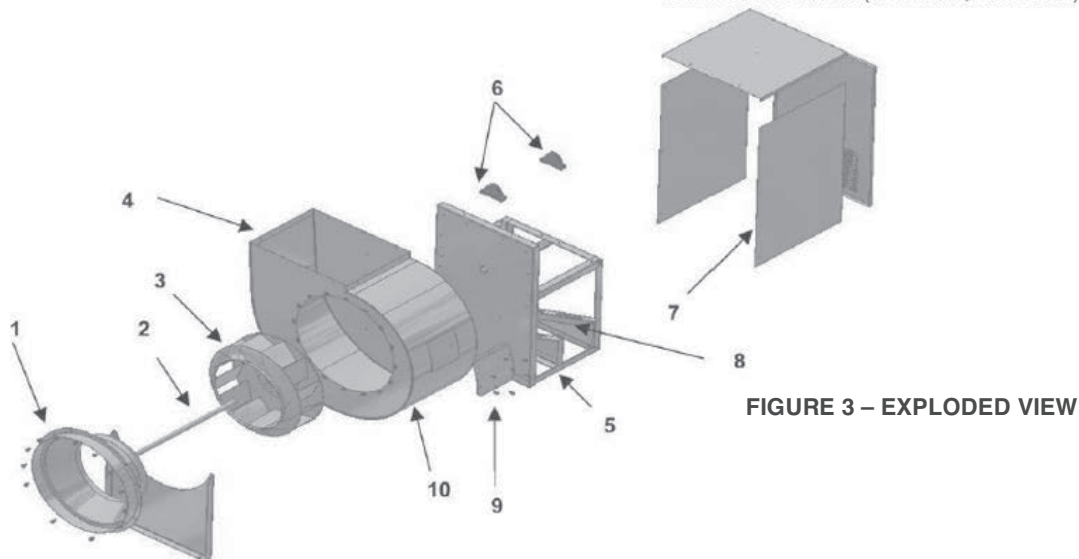

FIGURE 3 – EXPLODED VIEW
7. Should further service to the blower be necessary, refer to the exploded view illustration (Figure 3).